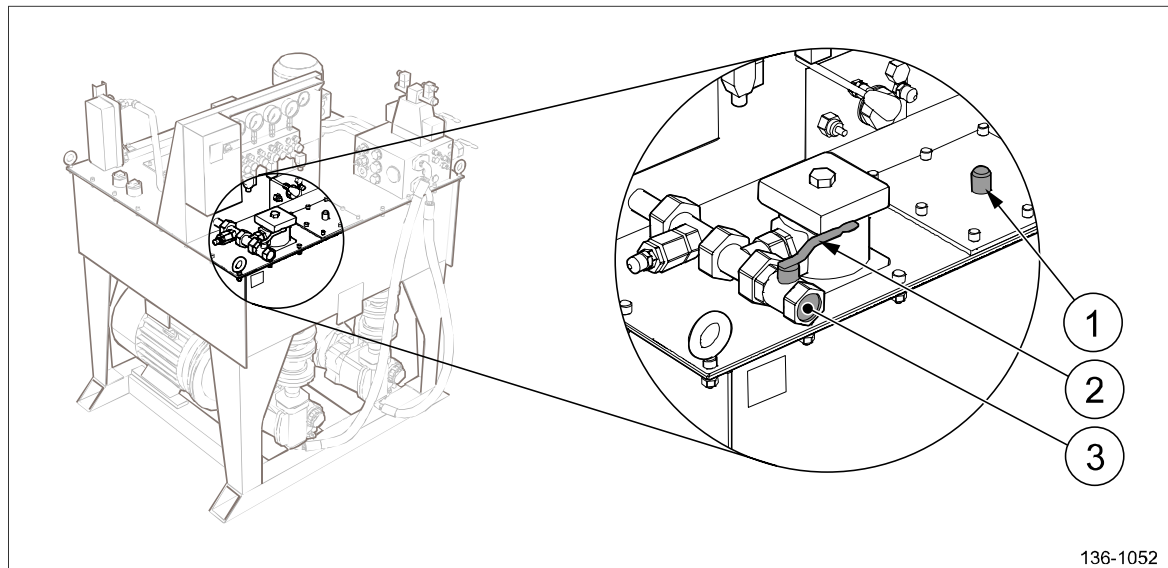

Figure 1 Return block on the hydraulic power pack.
1. Locate the dip stick on the hydraulic power pack (pos 1, figure 1).